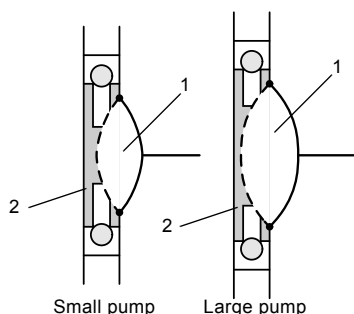

Fig. 13 Anti-cavitation
2. To improve the dosing of gas-containing liquids: In a large pump, as compared to a small pump, the displaced volume (1) is much larger than the non-displaced volume (2). See fig. 13.